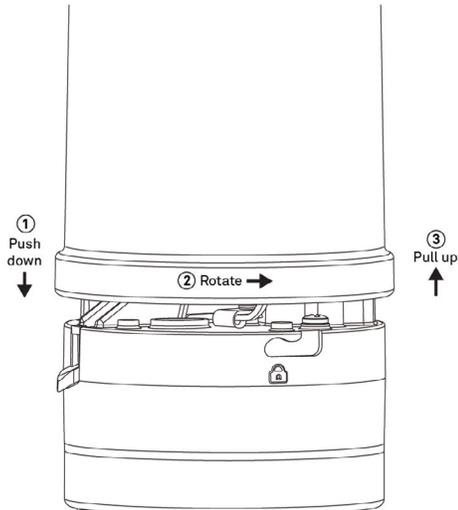

Figure 2. Removing ATMOS 41 rain funnel
4. Twist counter-clockwise to unlock from the ATMOS 41 base (Figure 2).